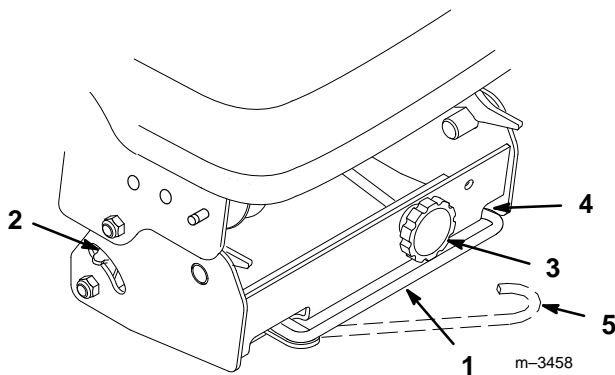

Figure 12
3. Release the belt tension release arm on the pulley box housing and swing it out toward you (Fig. 12).
6. Loop the other end of the belt over the drive pulley of the mower. Additional belt slack can be obtained (if needed) by turning the belt tension adjustment knob (Fig. 12).
- C. If the tension indicators are not in the same position on both the left and right sides, release the belt tension, turn the adjustment knob and repeat steps A and B until the indicators move to the same position (Fig. 12).
- D. Once the indicators are in the same position on both sides, swing the tension release arm into the pulley box and seat it by moving it into the position shown in Figure 12.